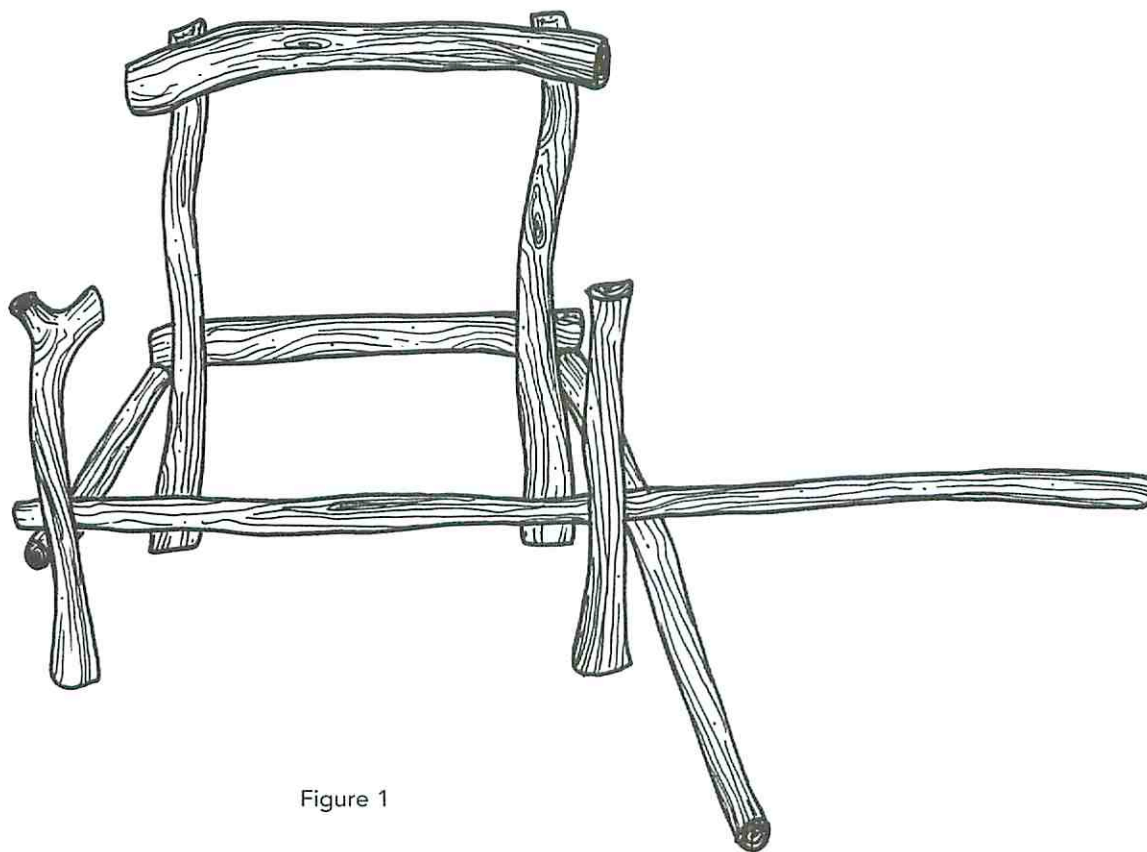

Figure 1
Next, secure the right front leg (F) and common left front leg (G) in place with lag bolts. Then attach the common front seat rail (H) to complete the frame of the first chair. See Fig. 1. You can now move on to finish the frame of the second chair by repeating the above steps. Do your best to match the look of the first chair, especially the back supports.